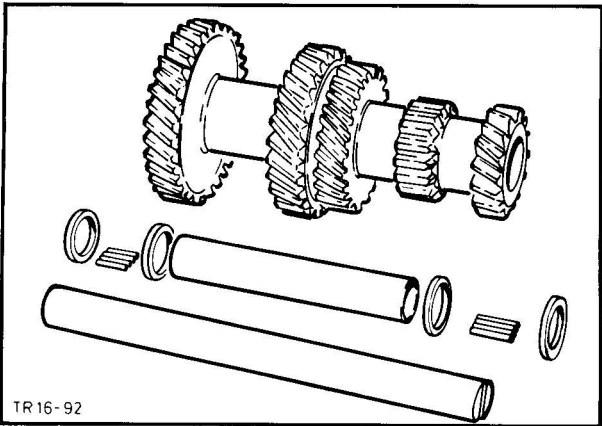

Fig. 49. Countershaft gear train dismantled
38. Reassemble countershaft gear train: slide dummy shaft with spacer tube into gear train, fill space between shaft and bore with multi-purpose grease then introduce needle rollers and spacer shims, Fig. 49.